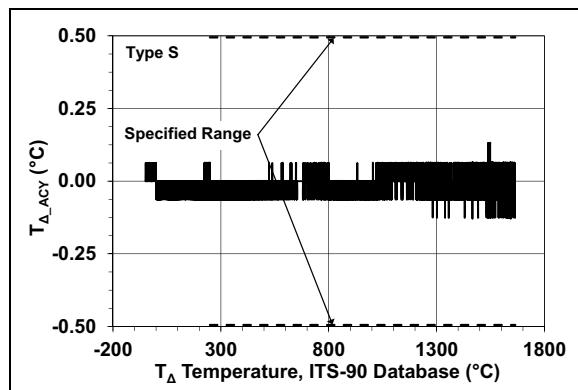

FIGURE 2-7: Typical Temperature Accuracy from NIST ITS-90 Database, Type S.
- 3:** The device measures temperature below the specified range, however, the sensitivity to changes in temperature reduces exponentially. Type R and S measure down to $-50^\circ C$, or -0.226 mV_{EMF} and -0.235 mV_{EMF}, respectively. Type B measures down to $500^\circ C$ or 1.242 mV_{EMF} (see Figures 2-7, 2-8, 2-10, 2-11, 2-14 and 2-17).